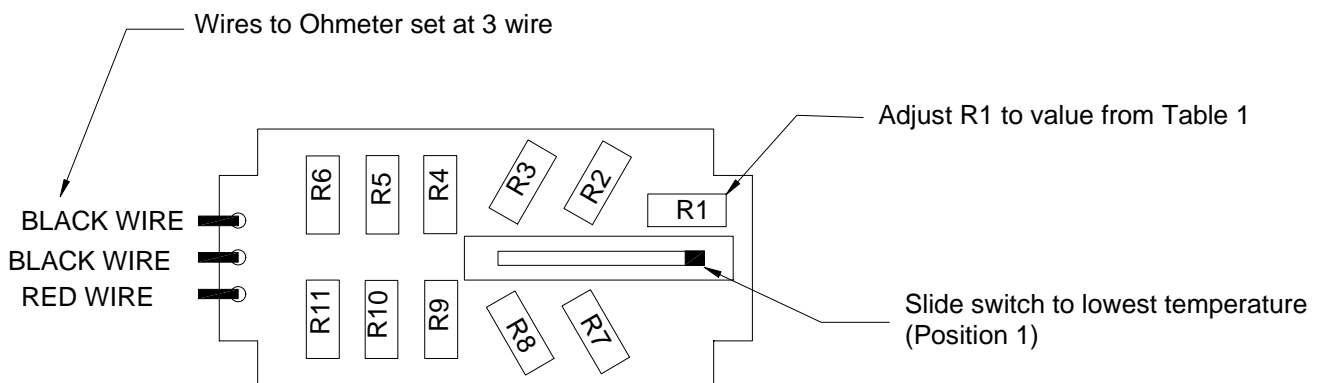

Figure 1
2. Move the switch to its lowest temperature position (Position 1) and adjust R1 (as shown in figure 1) to the resistance value obtained from Table 1.